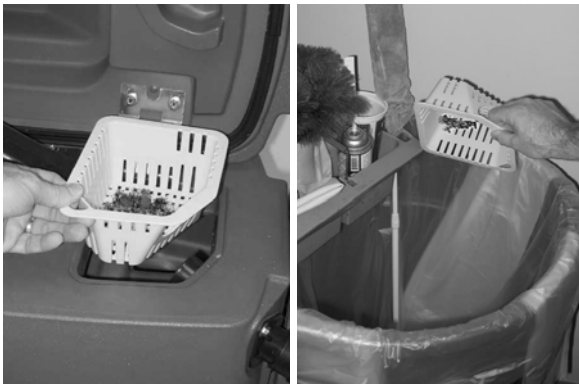

FIG. 42
2. Remove the debris tray and empty (Figure 42)